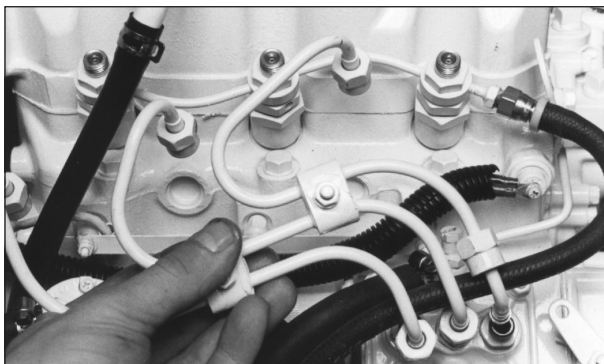

Figure 8: Remove delivery lines.
- b. Relieve high pressure in the fuel lines by loosening the delivery line flare nuts at each injector (Figure 8).